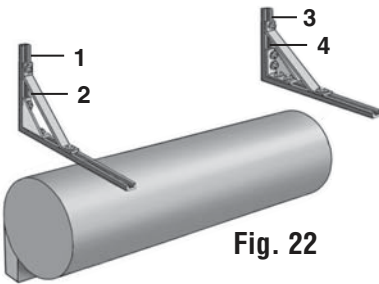

Fig. 22
2. If using lag screws, pre-drill the mounting holes. If using lag screws with anchors, drill the holes and place the anchors. Attach the wall brackets to the wall. (See Fig. 22)